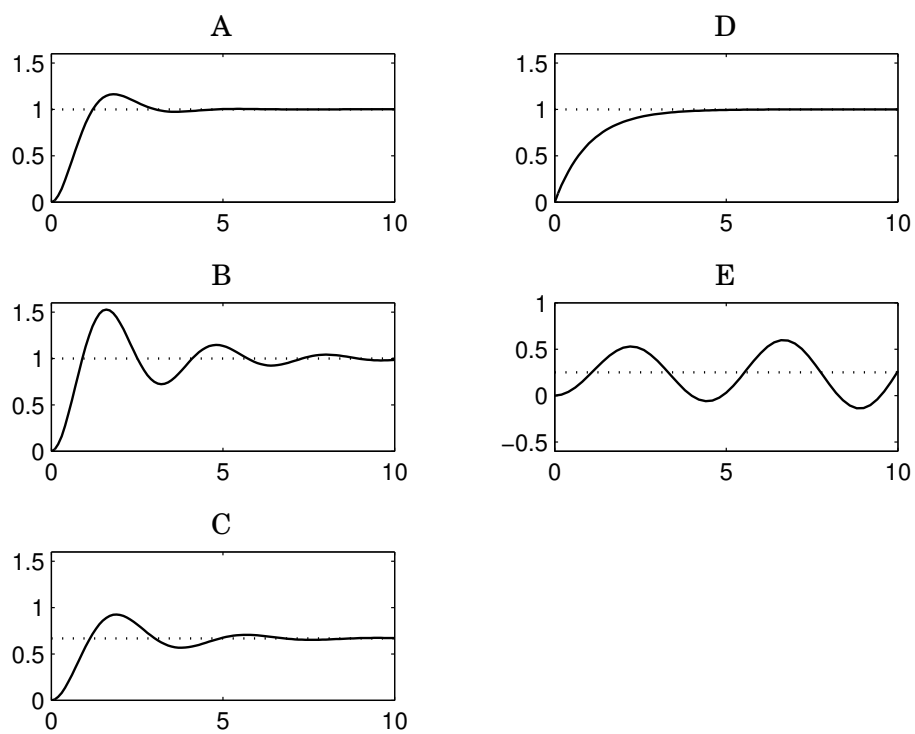

Figure 4.1 Step responses in Problem 4.5 (Extra).
4.5 (Extra) Figure 4.1 shows the step responses of five different linear time-invariant systems. Each of them corresponds to one of the seven transfer functions below. Pair them up! First reason analytically. Then use MATLAB to verify your conclusions.